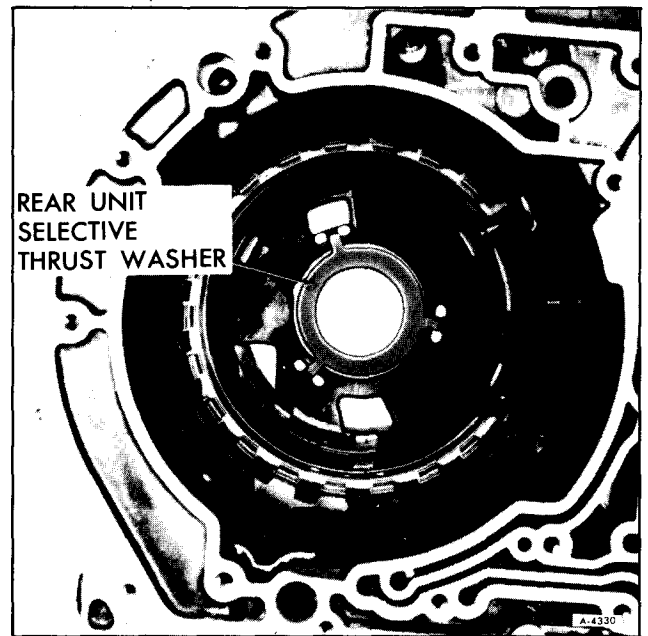

Figure 73—Removing and Installing Rear Unit Selective Thrust Washer
5. Install previously selected rear unit selective washer into slots provided inside rear of transmission case. Retain washer with petrolatum, Figure 73.